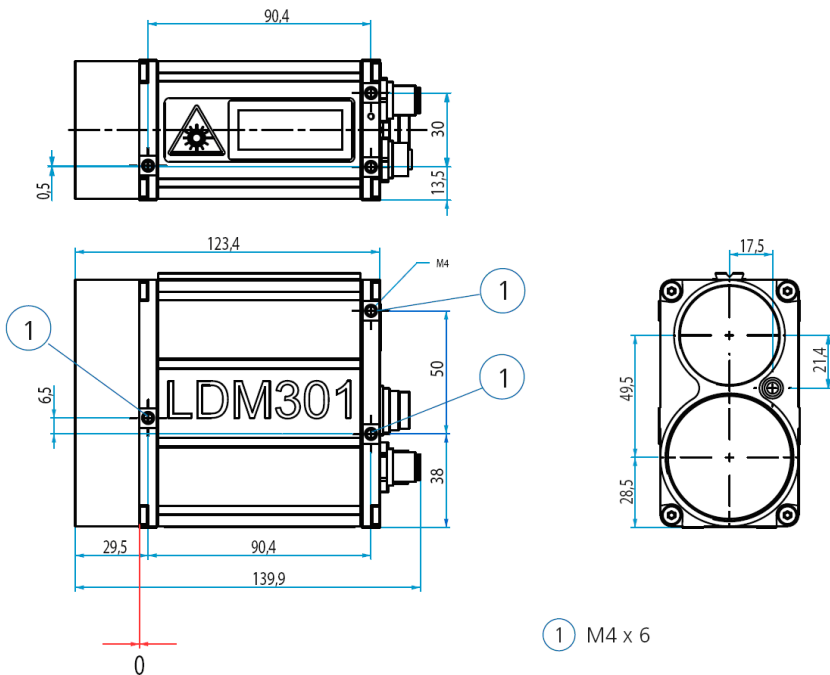
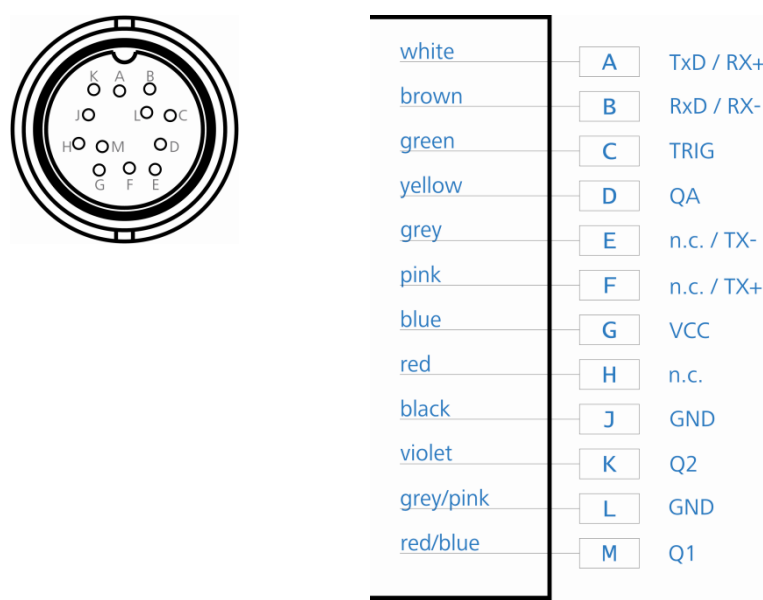

Figure 7 : Dimensions and position of the zero point (in mm)
Figure 8 : Connection drawing of the main connector
On each lateral side and on the underside of the LDM 301 casing there are three support pads with mounting holes (M4) for mechanical attachment of the LDM 301 (see Figure 7).
1. Attachment to a lateral surface: For attachment to the lateral surfaces, the LDM301 provides three support pads (Figure 7) with mounting holes (M4 x 6).
2. Attachment to casing bottom: Likewise, the LDM301 provides three support pads (Figure 7) with mounting holes (M4 x 6) for attachment to the bottom face of its casing.
The pilot laser (see Figure 7) is intended to support alignment to a given target point during start-up action of the LDM 301. It qualifies as a Class 2 Laser device and operates at 635 nm (red) in the visible range. The pilot laser is not aligned to emit in a direction parallel with the measurement Laser. Instead, its beam intersects with that of the measurement Laser at a distance of 75 m.
For interfacing, the LDM 301 provides different connectors depending on the type (see chapter 4.3, Device Types). A main connector port (Figure 7) is used for RS-232- or RS-422-interface and analog output and additional connectors provide SSI interface (Figure 8, no. 3) or Profibus interface (Figure 8).